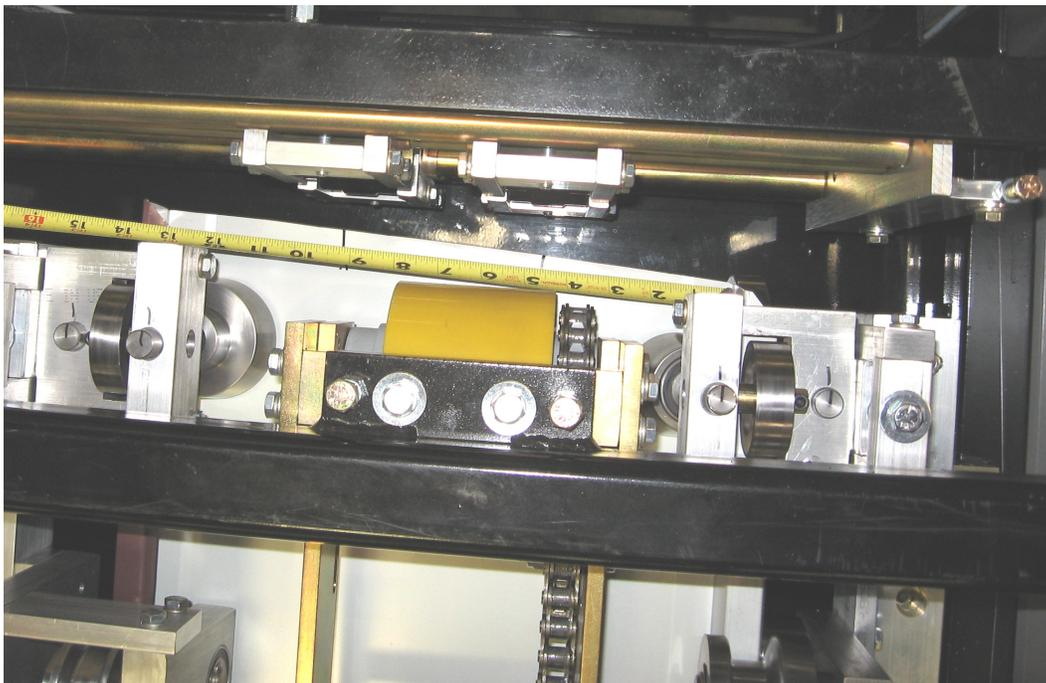

Figure 58: Spacing Bead Rollers
18. If the panel requires beads, determine the spacing needed. For Example: a 12" wide panel with 2 beads centered on the panel would give 3 equal spaces or 12" divided by 3, which equals 4" from center to center of each bead. Hook the end of the tape measure on the outside bottom corner of the female leg. Use a magic marker or grease pencil to mark the 4" and 8" locations on the panel.. (Figure 58)